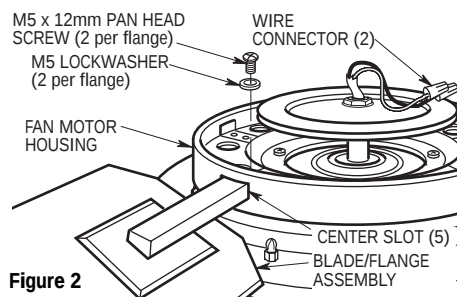

Figure 2
2. Slide the blade/flange assembly through the center slot in the fan housing. Mount each blade/flange assembly to the fan motor housing using two M5 lockwashers and two M5 x 12mm pan head screws (supplied) (Figure 2).